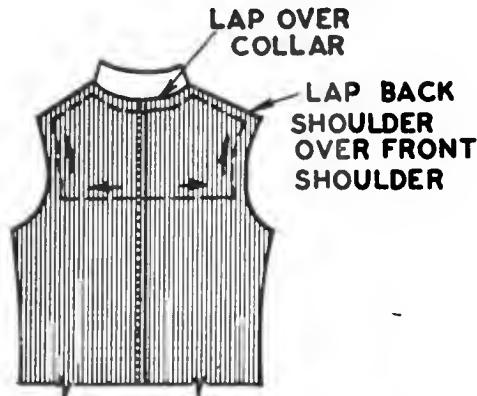

Fig. 250. The back of the garment.
- G. Place the back of the garment against the table and pin the grainline of the lining and garment across the shoulder blades, working from the center back toward armseye (Fig. 250).
I. Clip the curved lining seam at several places almost to the stayline or the seamline at the neck edge. Turn back the seam allowance, pin, and baste the shoulder seams of the lining to the shoulder seams of the garment, lapping the back over the front lining (Fig. 250). Pin and baste the